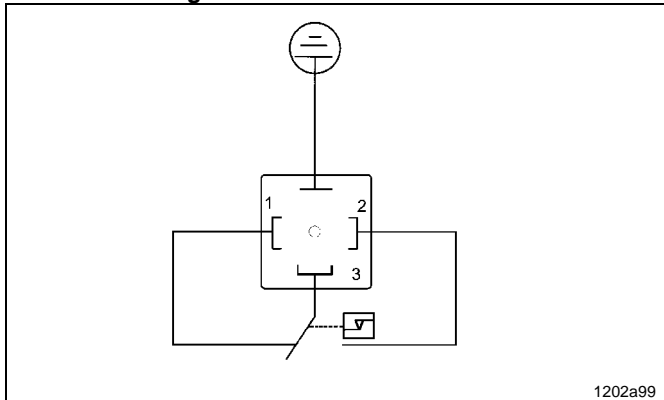

Fig. 24 Connection diagram, low-level control for oil
*The switch parts of the low-level control (items 1 to 3) cannot be used with fluid greases (see fig. 24, page 19).*